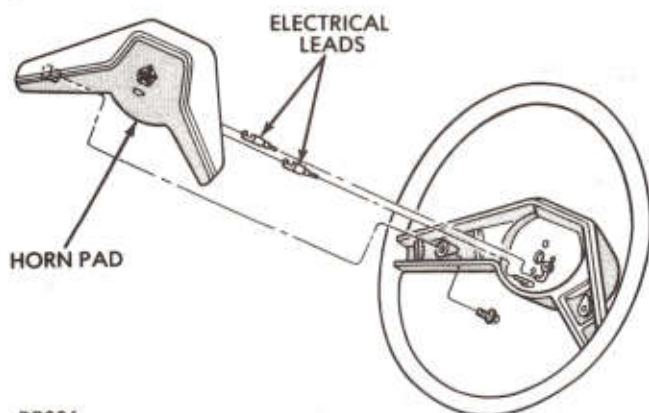

Fig. 1—Steering Wheel Type I
- (3) On Type I and Type II steering wheels (Figs. 1 and 2) remove horn pad and disconnect electrical leads from pad.
- (4) Remove steering wheel nut and remove steering wheel with puller C-3428B.
- (5) Disassemble steering column for switch removal.